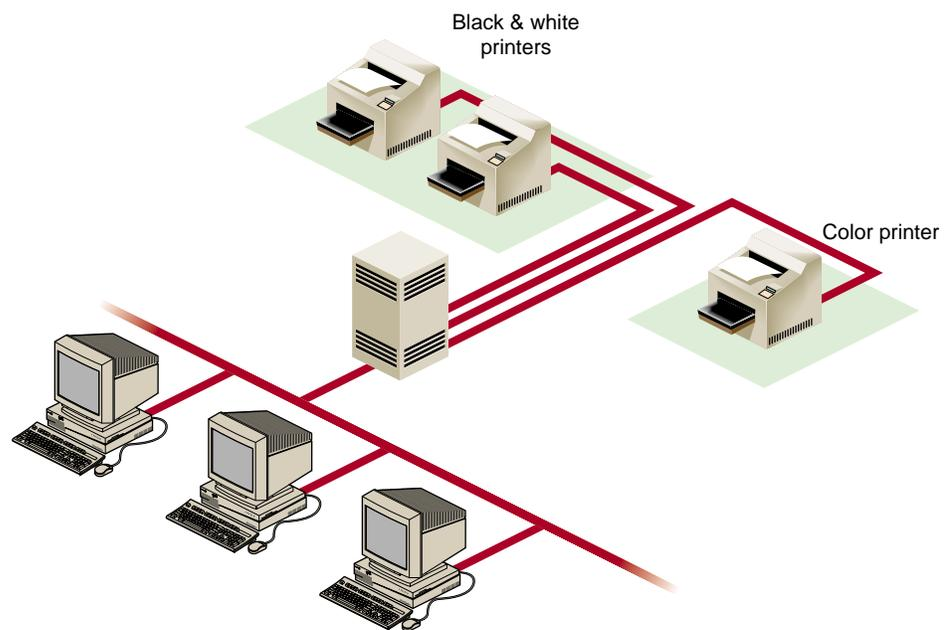

Figure 2-2 Printer Classes
- class** The name given to an ordered list of one or more printers. A printer may be assigned to more than one class, but need not be a member of any class. Figure 2-2 shows printers divided into two classes: one for black and white printers and one for color printers.